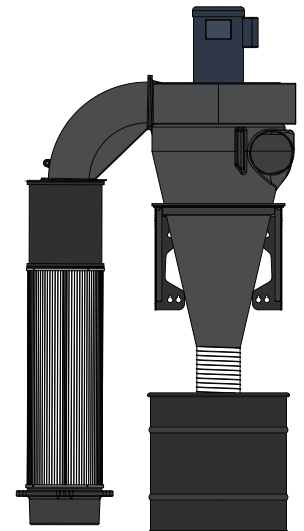

FIG. 1b
- Wall Bracket Instruction Sheet and Template # ZBI010018A and ZBT010018 [FIG 1b]